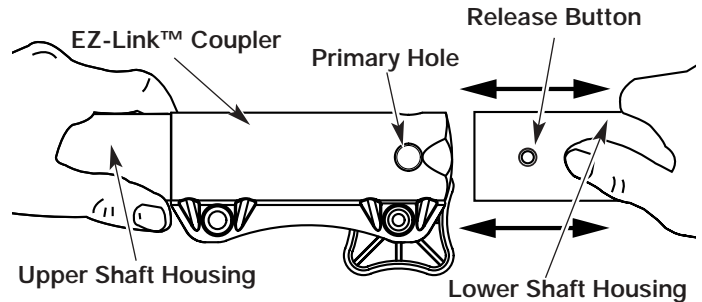

Figure 24
3. While firmly holding the upper shaft housing, pull the cutting attachment or add-on straight out of the EZ-Link™ coupler. See Figure 24.
2. While firmly holding the add-on, push it straight into the EZ-Link™ coupler. See Figure 24.